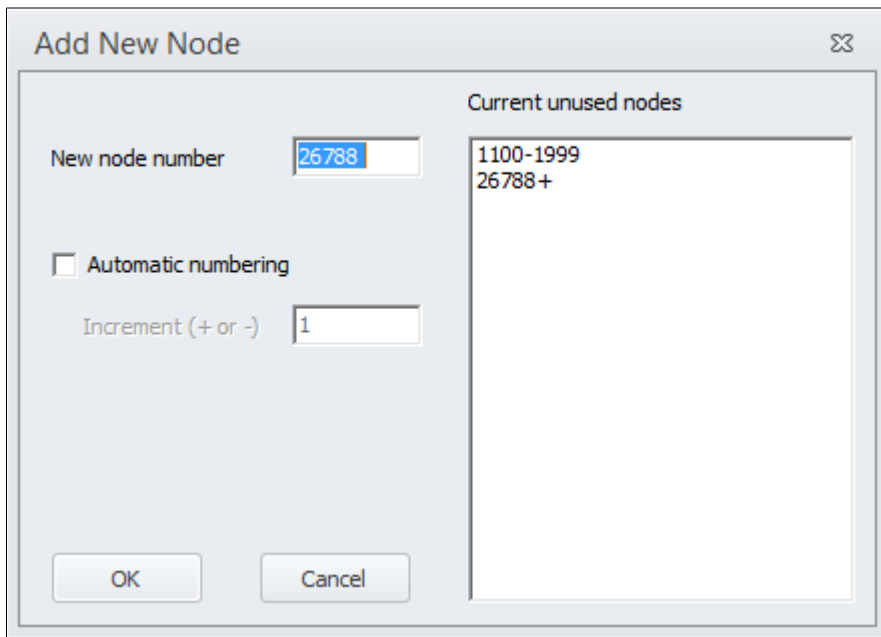

Figure 84 The Add New Node window
- 10) Click on "Yes" and then select a node value greater than 2000 (values up to 1999 are only for terminals and zones), see Figure 84